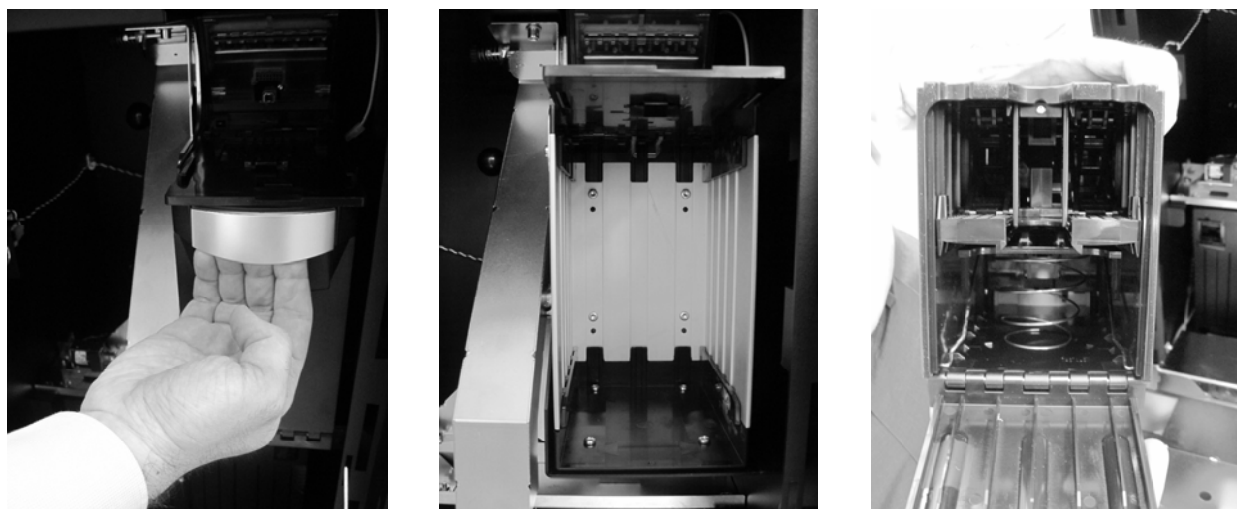

Fig. 11
- Remove the cashbox and check that there are no jammed banknotes (fig.11).